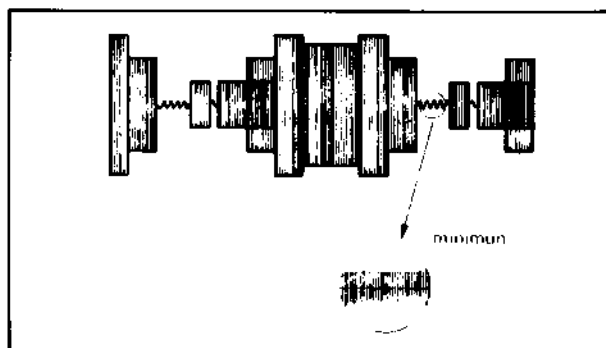

Fig. 5-30 Main converter balance adjustment
3. Adjust R216 (CONV. BAL.) so that the carrier leak of TP-206 minimum, as shown in Fig. 5-30.